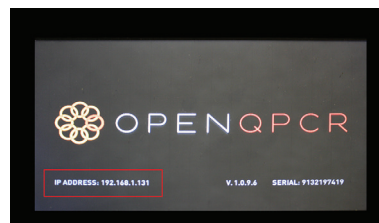
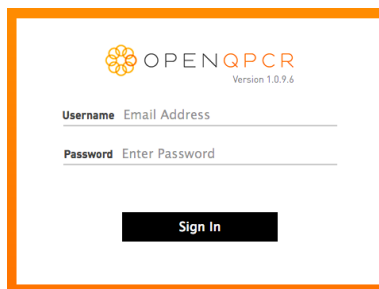

Figure 12
Figure 13
4. Once the opening screen has loaded (Figure 12, page 35), find and record the IP address displayed in the lower left corner of the screen. (During the lab, multiple groups will be able to simultaneously use this address).
5. Open a browser, enter the IP address in the navigation window and press enter. Wait until the home page loads (Figure 13, page 35).
1. **TURN ON** the machine. **RECORD** the IP address on the Open qPCR screen (Figure 12) and **RE-ENTER** the address into a browser. When the Welcome Screen loads (Figure 13), type in your class's user name and password.